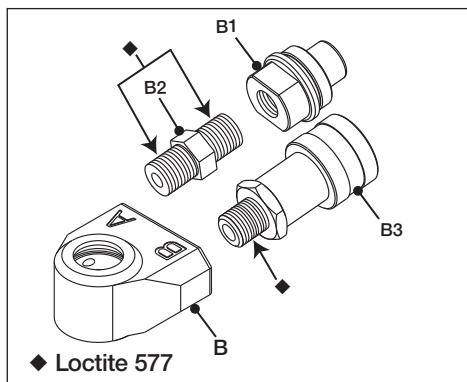

Fig. 17
- Apply Loctite 577 sealant to threads on female coupling (B3) and adapter (B2). See (◆) in Figure 17 for locations.